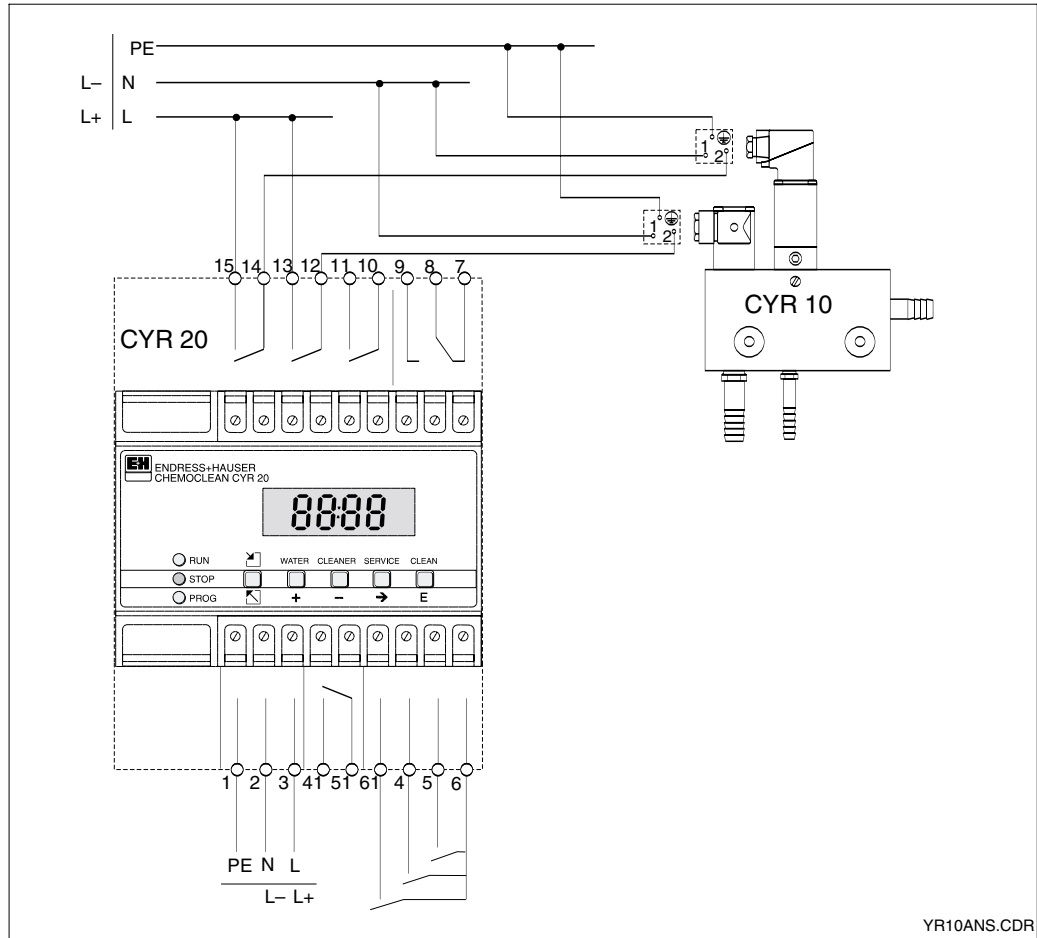

Fig. 3.12 Terminal connecting plan for CYR 10
- Connect cables to the programme sequencer CYR 20 as shown in Fig. 3.12.